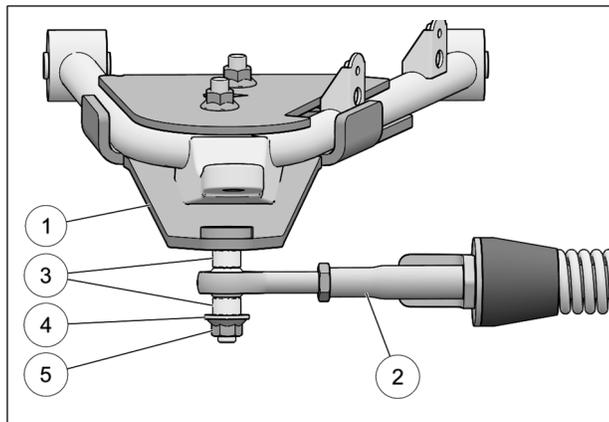

Fig. 20
- Attach the stabilizing rod (2) to the anchor bracket (1), using the two spacers (3), washer (4), and nut (5). Torque to 70 N•m [52 lb•ft]. Refer to Fig. 20